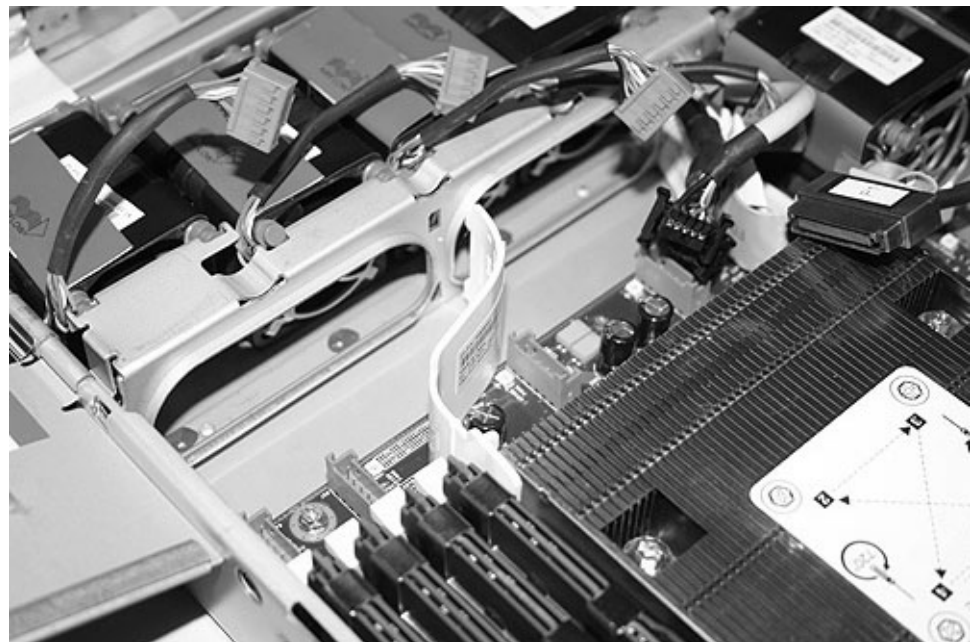

Figure 202. Right air baffle on the SAN Volume Controller 2145-8G4 system board
11. Remove the right air baffle, which is shown in Figure 202. First, pull the air baffle to the right and then push the connector towards the back of the unit to release it from the support rail. Next, pull the baffle forward and then upward to release the clip from the system board. Finally, lift the baffle free.